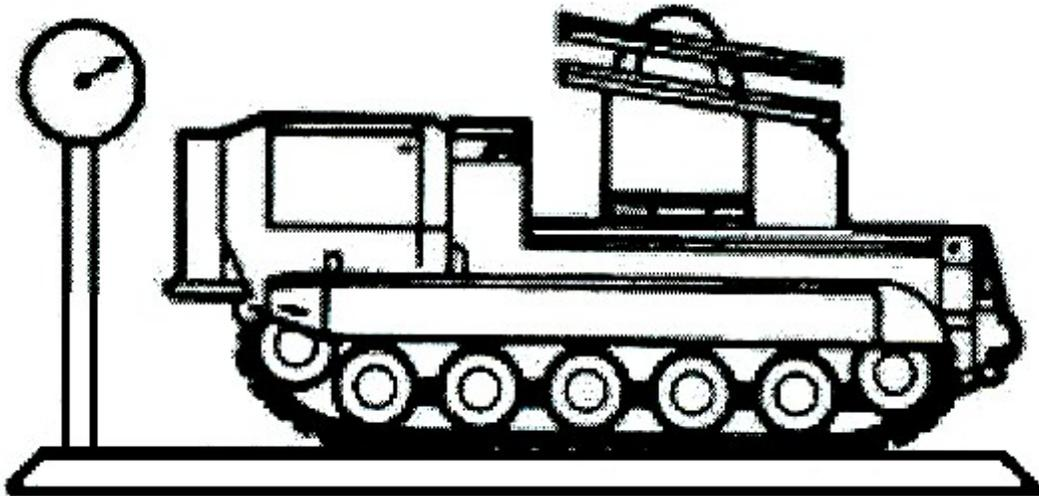

Figure 3-121
7. Direct personnel to determine the weight of a tracked vehicle using prescribed procedures (see Figure 3-121).